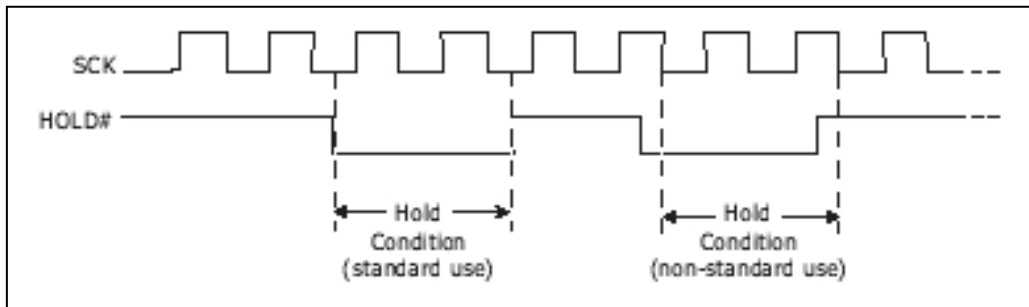

Figure 3 Hold Condition Activation
To enter the Hold condition, the device must be selected, with Chip Enable (CE_L) Low. The Hold condition starts on the falling edge of the Hold (HOLD#) signal, provided that this coincides with Serial Clock (SCK) being Low (as shown in Figure 3).
The Hold condition ends on the rising edge of the Hold (HOLD#) signal, provided that this coincides with Serial Clock (SCK) being Low. If the falling edge does not coincide with Serial Clock (SCK) being Low, the Hold condition starts after Serial Clock (SCK) next goes Low. Similarly, if the rising edge does not coincide with Serial Clock (SCK) being Low, the Hold condition ends after Serial Clock (SCK) next goes Low (Figure 3). During the Hold condition, the Serial Data Output (SO) is high impedance, and Serial Data Input (SI) and Serial Clock (SCK) are Don't Care.